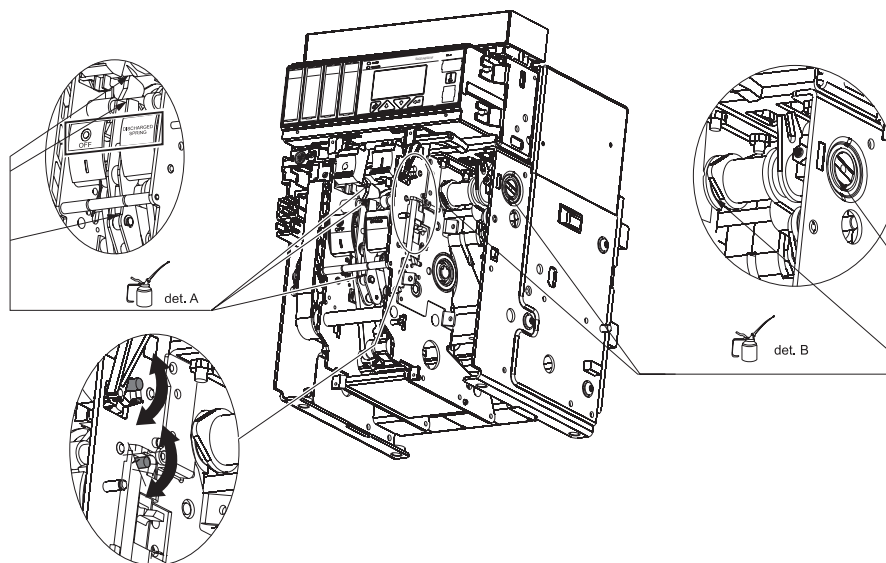

Fig. 43
- Cleaning (for excessive deposits, a dilutant such as Henkel 273471 or the equivalent can be used) and lubricate, at the points indicated in fig. 43, part A, as for First Level, the opening and closing shafts and hooks with MOBILGREASE 28 (EXXON MOBIL).
- Cleaning (for excessive deposits, a dilutant such as Henkel 273471 or the equivalent can be used) and lubricate with MOBILGREASE 28 (EXXON MOBIL) the supports of the operating shaft, including those on the sides of the circuit-breaker (see fig. 43 part B).